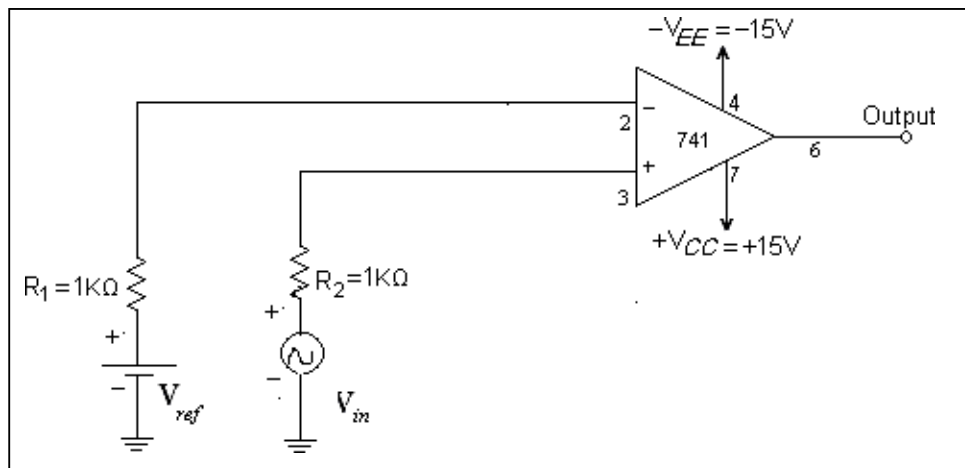

Fig 1 Voltage Comparator Circuit
1. A fixed reference voltage V_{ref} is applied to the (-) input, and to the other input a varying voltage V_{in} is applied as shown in Fig 1.